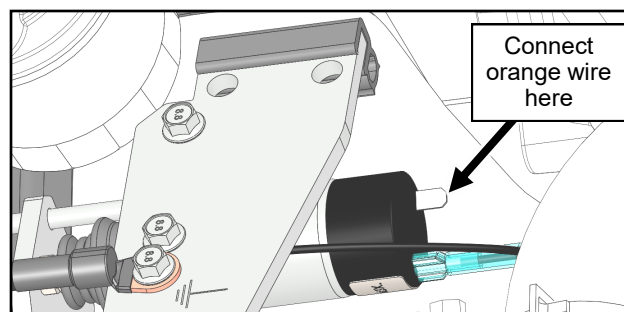

Fig. 5.3 (Orange wire to solenoid)
- 5.3** Connect the orange wire from the power harness to the (+) terminal on the back of the solenoid per Figure 5.3.